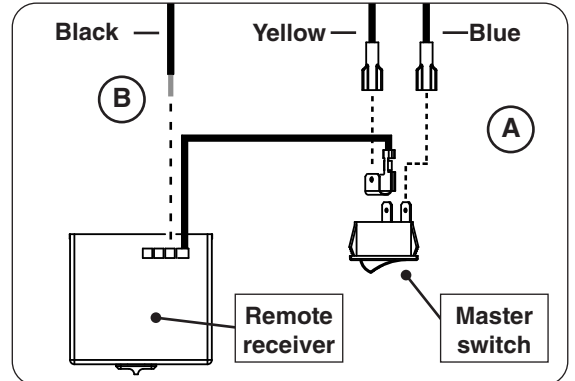

Fig. 33-2 Disconnect receiver & switch wires
- Disconnect the yellow and blue wires (with connectors) from the rear of the master switch (see Fig. 33-2, A).
- Disconnect the black stripped wire from the rear of the remote receiver (see Fig. 33-2, B). Use a small Phillips screwdriver.